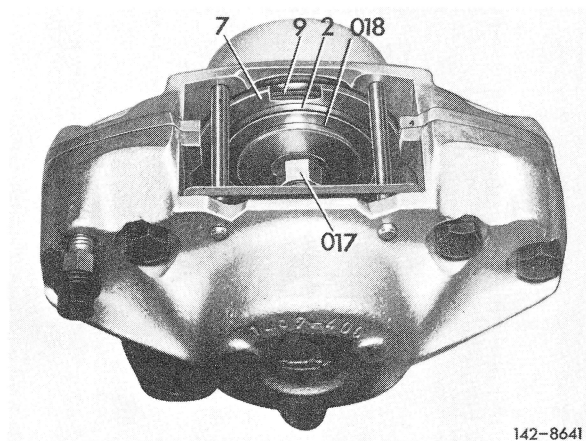

Fig. 20
**15** On Bendix (Bx)-caliper, insert heat shield (7) into piston in such a manner that recess in shield fits accurately into elevation of piston (Fig. 20).
**16** Place plate (018) on piston, then insert device (017) into caliper and press heat shield (7) into piston (Fig. 20).